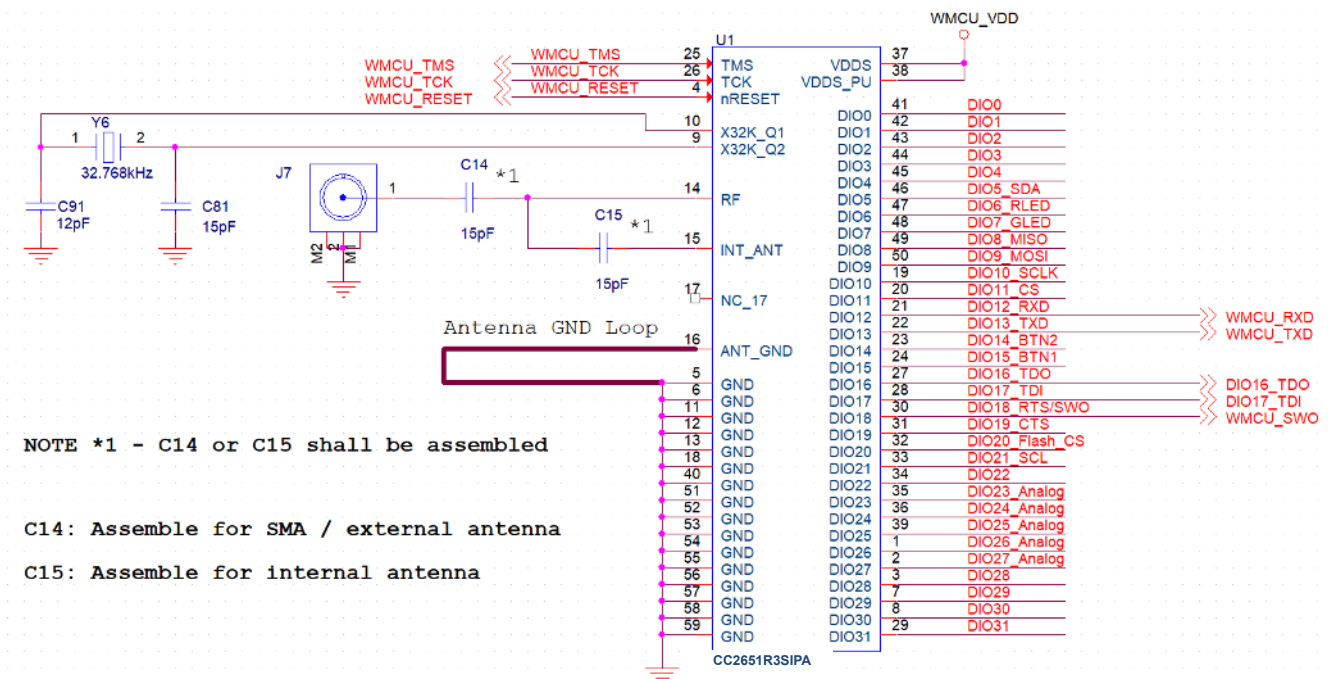

Figure 10-1. CC2651R3SIPA Typical Application Schematic
Figure 10-1 shows the typical application schematic using the the CC2651R3SIPA module. Note that C15 should be assembled when using the integrated antenna option within the module. C14 should be assembled if the module is to be used with an external antenna. In addition if using the external antenna option, Pin 16 of the module can be left unconnected. For the full reference schematic, download the LP-CC2651R3SIPA Design Files.
Table 10-1 provides the bill of materials for a typical application using the CC2651R3SIPA module in Figure 10-1. For full operation reference design, see the LP-CC2651R3SIPA Design Files.
In order to meet the module power-on-reset requirements, VDDS (Pin 37) and VDDS\_PU (Pin 38) should be connected together. If the reset signal is not based upon a power-on-reset and is derived from an external MCU, then VDDS\_PU (Pin 38) should be No Connect (NC). Please refer to Figure 10-1 for the recommended circuit implementation.